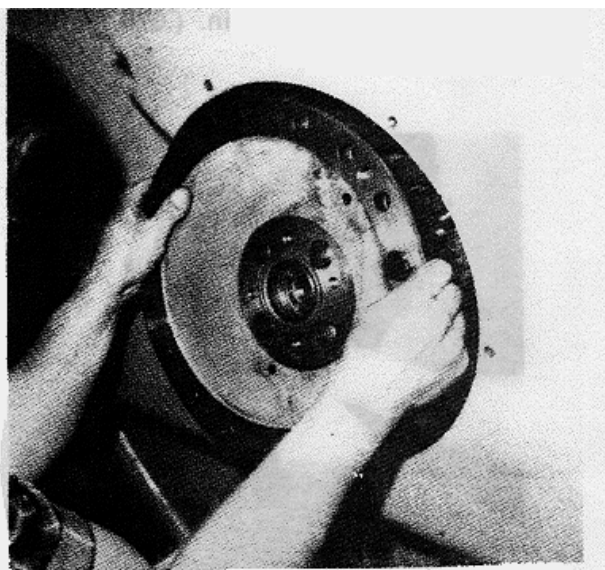

FIGURE 7-95.
g. Install two alignment bolts and spline the planetary anchor flange on to the outer planetary hub (C350B only) (see figure 7-95). Install two capscrews in two remaining holes and torque to 120 ft.lbs. (C350B only) (16.6 kg-m).